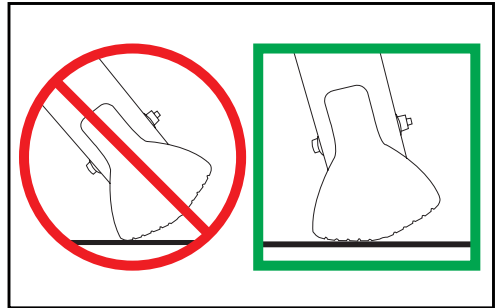

Figure 4
- 2.7 Note the slope of the ladder feet and the location of the safety grip wall bumper square pads and then correctly deploy and support the extended ladder forwards and at an angle of 75 degrees to the horizontal (see figures 4 and 5).